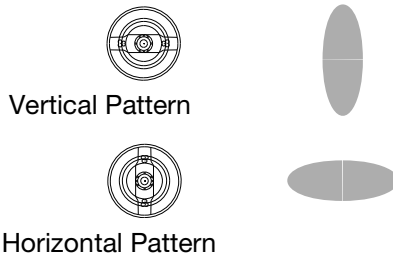

FIG. 15. Air Cap Positions
4. Loosen the air cap retaining ring, and rotate the air cap for a vertical or horizontal spray pattern. See FIGURE 15. Tighten the retaining ring until the air cap is held firmly in place; you should not be able to rotate the air cap horns by hand.